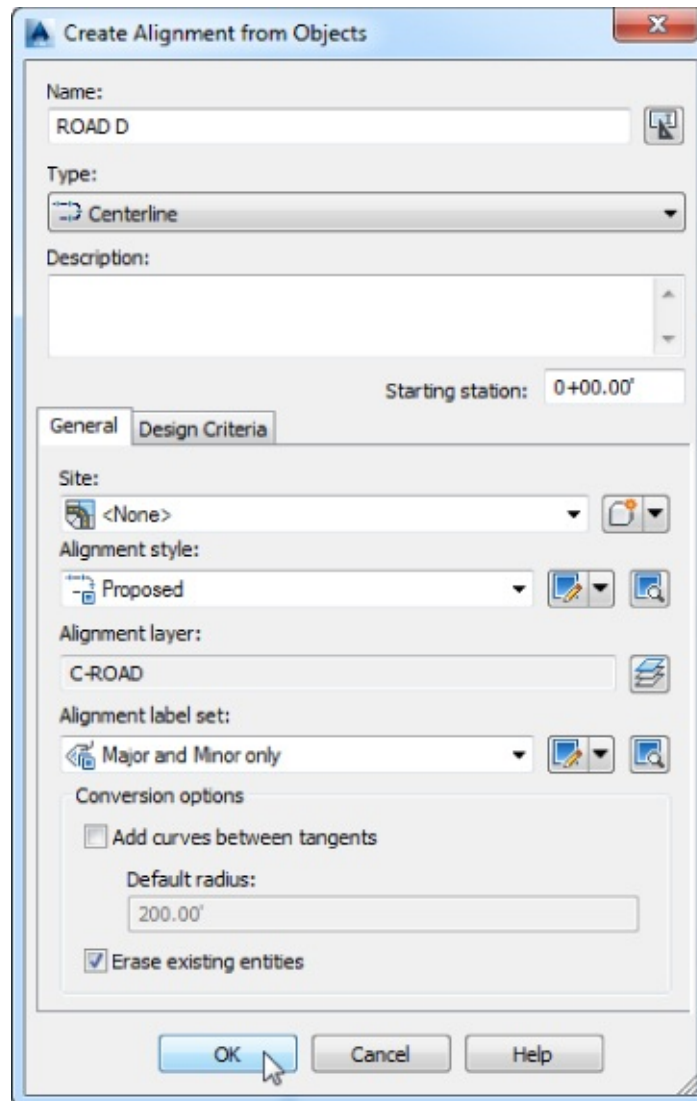

Figure 6.5 The settings used to create the ROAD D alignment
6. Verify that Alignment Style is set to Proposed and Alignment Label Set is set to Major And Minor Only, and within the Conversion Options make sure that the Add Curves Between Tangents option is unchecked while the Erase Existing Entities box is checked. The Create Alignment From Objects dialog should match Figure 6.5.
In the Create Alignment From Objects dialog (shown in Figure 6.5), there are many settings that you can adjust when creating an alignment: